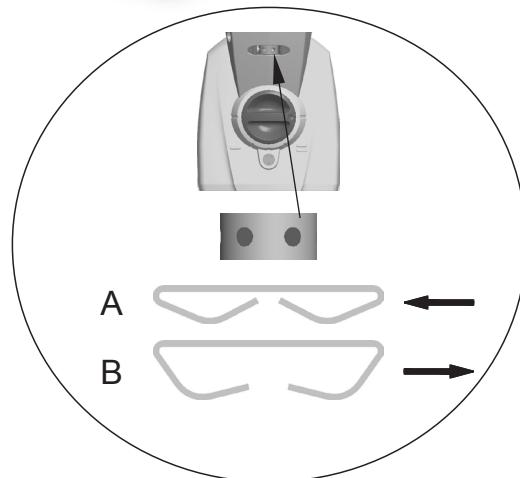

Fig. 6
- With a small screwdriver turn the adjusting nut behind the slot (Fig. 6/1). Turn clockwise to close the clinch (6/A). Turn the adjusting nut anticlockwise to open up the clinch (6/B).